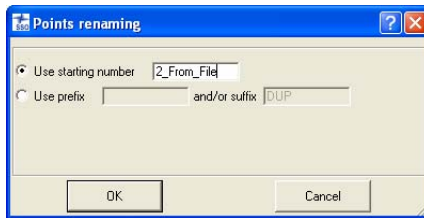

Figure 5-22. Points Renaming Window
- Then the **Points renaming** dialog box will display (Figure 5-22)